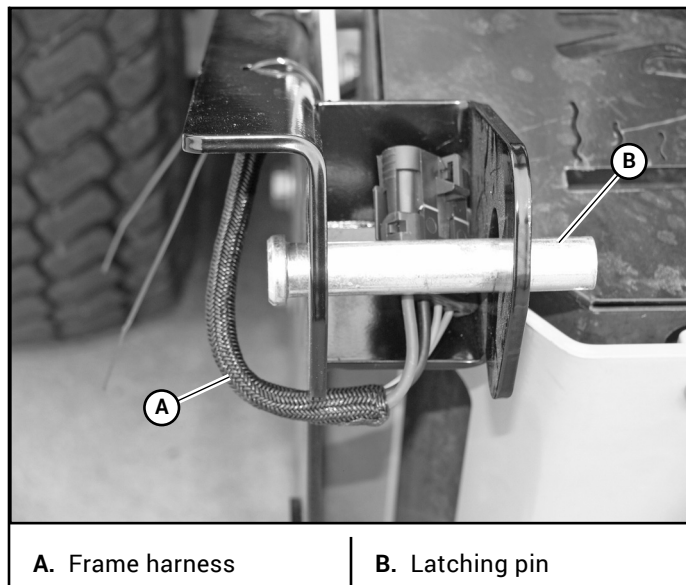

Figure 4-22
5. Re-insert the latching pins into frame mount for storage. Secure in place with the hair pins. Tuck the BAC-VAC™ frame harness under the left side latching pin for protection. Figure 4-22